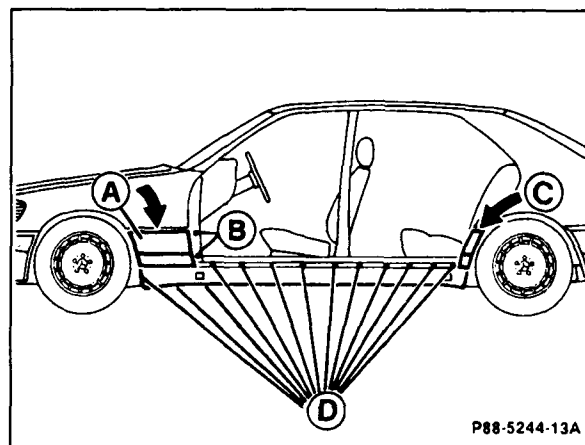

Figure 7
1. Remove side panel from front fender by removing mounting nut (A, Figure 7) and mounting screws (B) on A-pillar. Using a plastic wedge, disengage top of side panel and slide out from rocker panel cover.
3. Pull rubber seal out of original rocker panel cover retaining slot. Remove upper and lower mounting screws from cover (D, Figure 7). Using plastic wedge, disengage cover from fasteners. Press mounting clips out of original cover. Pull out retaining strap for jack point cover.